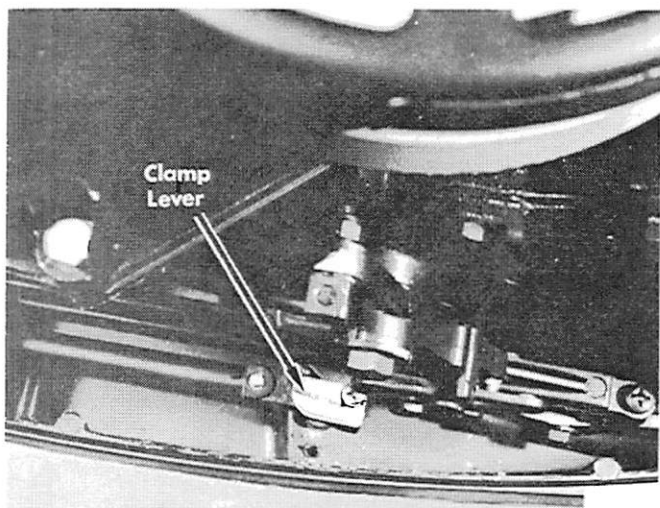

Figure 2. Shift Cable
3. Position clamp lever over cable end guide. (Figure 2) Check that motor is in neutral when control handle is in neutral. If not, adjust shift cable.